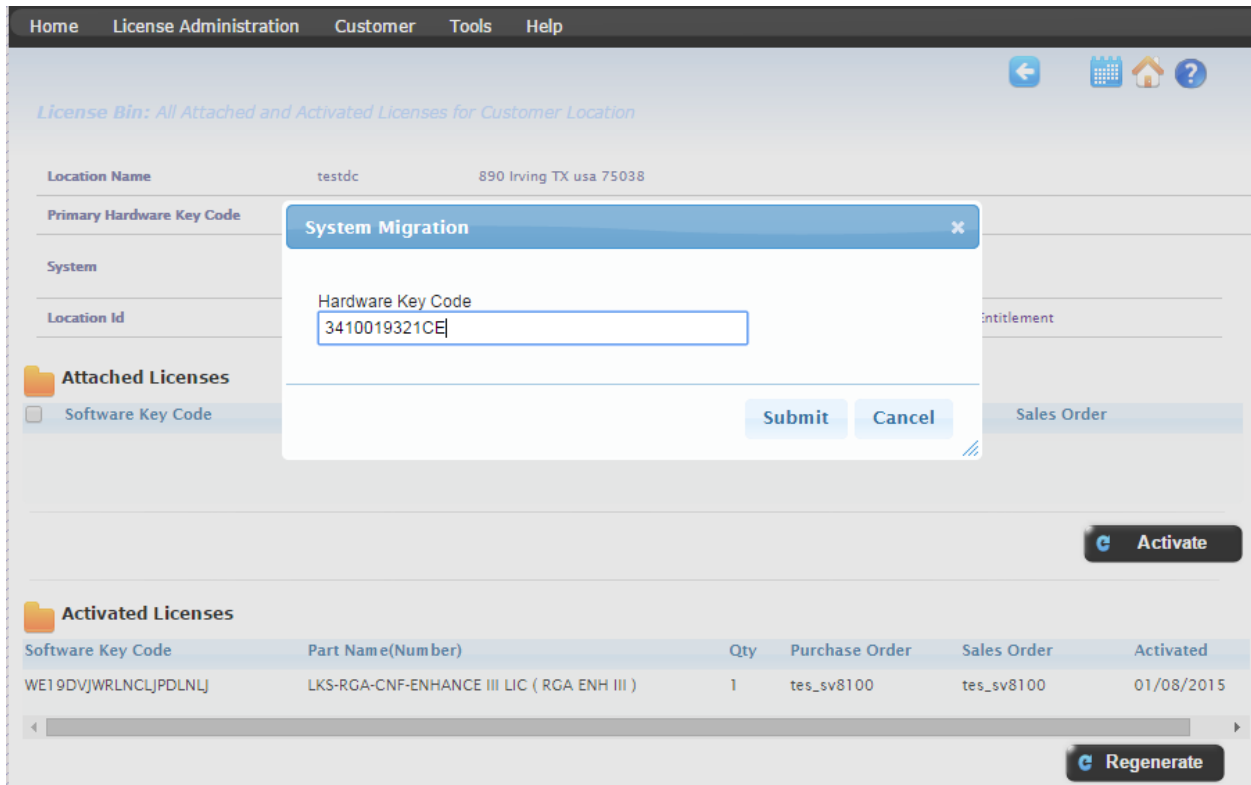

Figure 2
2. Once the user clicks on the icon,  a pop-up will appear that requests the new HKC as shown in Figure 2.